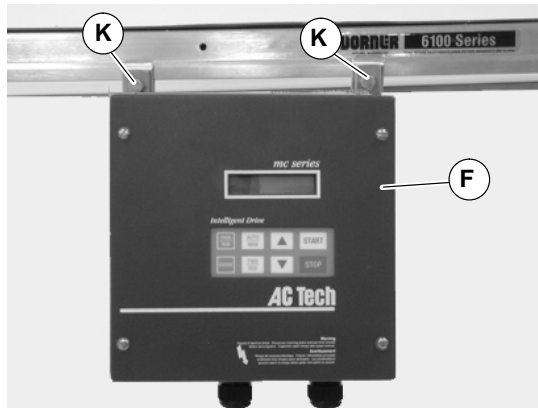

Figure 12
3. Attach controller (F of Figure 12) to conveyor with screws (K).